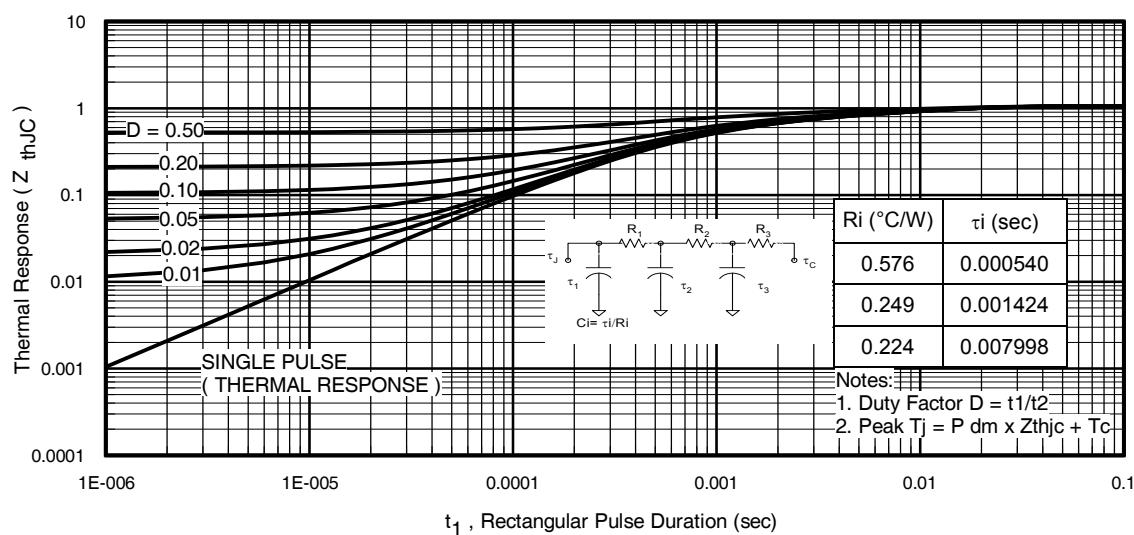
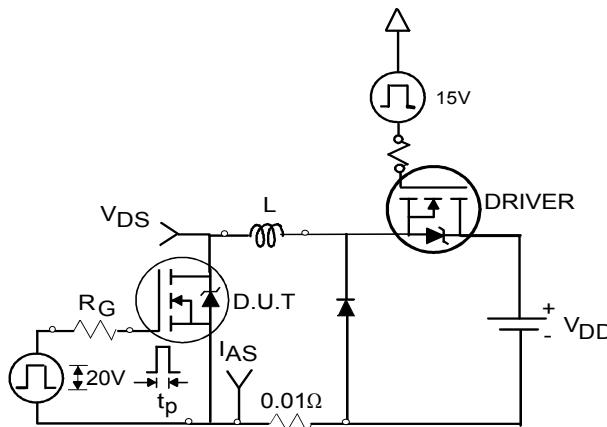

Fig 11. Maximum Effective Transient Thermal Impedance, Junction-to-Case
Fig 12a. Unclamped Inductive Test Circuit
- ① Repetitive rating; pulse width limited by max. junction temperature. (See fig. 11)
- ② Limited by $T_{J\max}$, starting $T_J = 25^\circ\text{C}$, $L = 0.28\text{mH}$, $R_G = 25\Omega$, $I_{AS} = 33\text{A}$, $V_{GS} = 10\text{V}$. Part not recommended for use above this value.
- ③ Pulse width $\leq 1.0\text{ms}$; duty cycle $\leq 2\%$.
- ④ $C_{oss\ eff.}$ is a fixed capacitance that gives the same charging time as C_{oss} while V_{DS} is rising from 0 to 80% V_{DSS}
- ⑤ Limited by $T_{J\max}$, see Fig.12a, 12b, 15, 16 for typical repetitive avalanche performance.
- ⑥ This value determined from sample failure population, starting $T_J = 25^\circ\text{C}$, $L = 0.28\text{mH}$, $R_G = 25\Omega$, $I_{AS} = 33\text{A}$, $V_{GS} = 10\text{V}$.
- ⑦ When mounted on 1" square PCB (FR-4 or G-10 Material). For recommended footprint and soldering techniques refer to application note #AN-994
- ⑧ R_θ is measured at T_J approximately 90°C .
3. Equation below based on circuit and waveforms shown in Figures 12a, 12b.